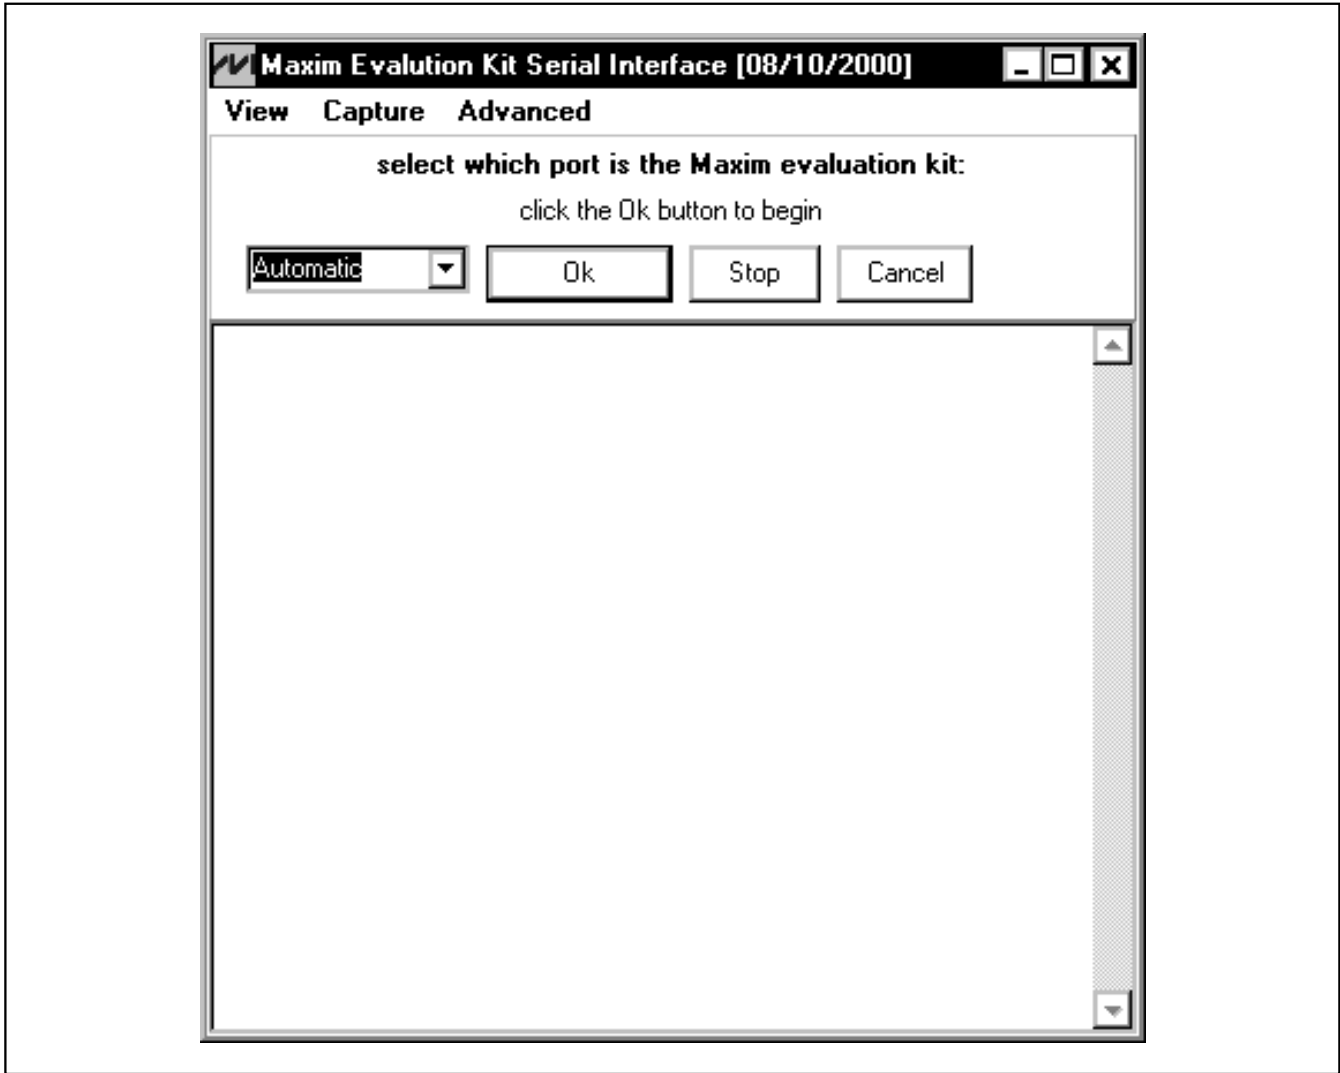

Figure 1. Maxim Evaluation Kit Serial Interface Form
- 6) Install a shunt on JU8 to connect the ground sense (GS) to the header (JU2).
- 12) Turn on the power supplies and slide SW1 to the ON position. Click the **OK** button after the Maxim Evaluation Kit Serial Interface form window opens (shown in Figure 1). The program will automatically download KIT5734.C16 to the module.